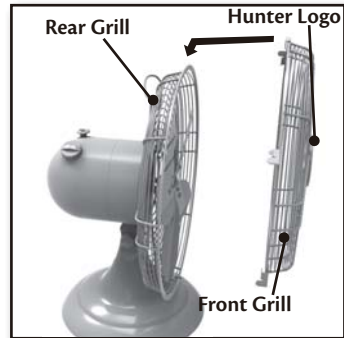

Figure 11
- Center the front grill by aligning the Hunter logo on the grill hub so it is horizontal and parallel to the floor. Figure 11.